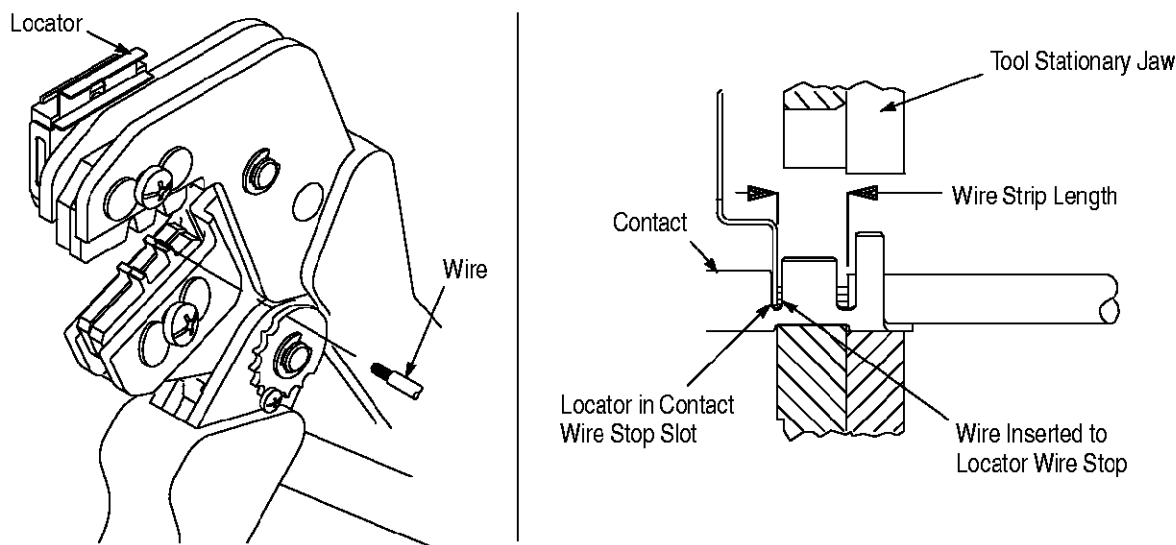

Figure 3
Refer to Figure 3, and proceed as follows:
5. Insert stripped wire into contact insulation and wire barrels until it is butted against the wire stop, as shown in Figure 3.
The crimped contact may stick in the crimping area, but can be removed by pushing downward on the top of the locator (see Figure 3).